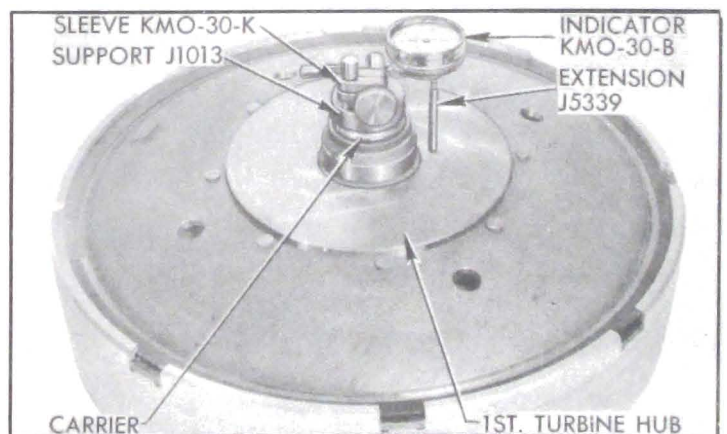
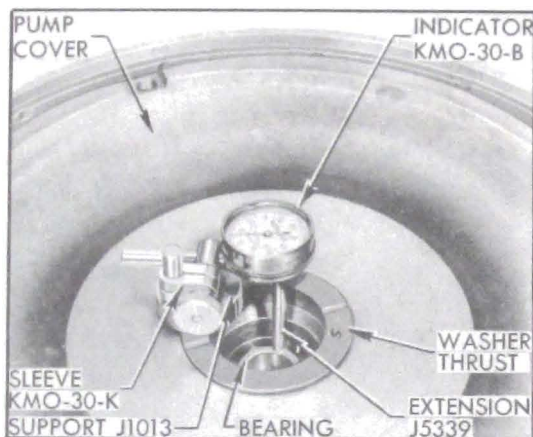

Figure 4-31—Dial Indicator on Turbine Assembly
Figure 4-32—Dial Indicator on Pump Cover
Support J 1013 with Sleeve KMO-30-K. Place indicator support on the protruding hub of the turbine carrier, adjust dial indicator so that the extension bears at 90 degrees against the ground surface on first turbine hub, then *set indicator at zero*. See figure 4-31.
8. Remove dial indicator and support from turbine assembly and set it firmly on the thrust washer on pump cover so that the indicator plunger extension bears against inner race of pilot bearing. See figure 4-32. *Use care to avoid changing the zero setting of dial indicator.*
9. The dial indicator should read between .002" and .010" clockwise from zero because the distance measured in step 8 (fig. 4-32) must be .002" to .010" LESS than the distance measured in step 6 (fig. 4-31). This difference is required to give the first turbine proper end play or operating clearance in its position between the pump cover and the second turbine.